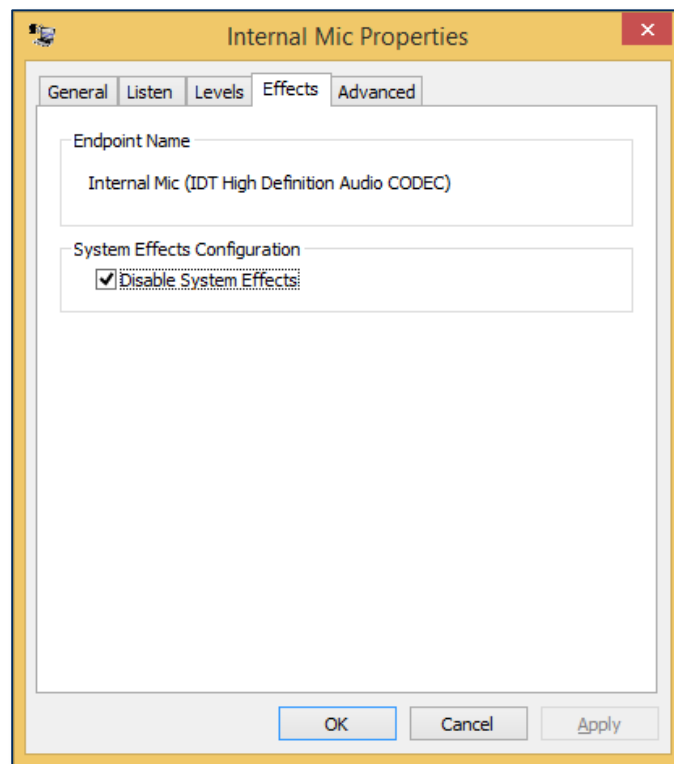

Figure 3-4 Effects Turned Off
- 18) If the **Enhancements** tab has a **Disable System Effects** checkbox, turn it ON. Turn all other effects off. See **Figure 3-4** for an example.